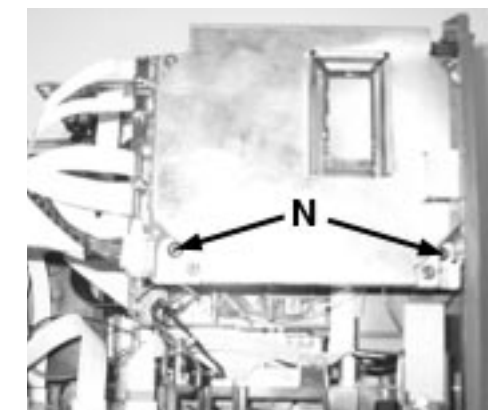

Figure 14A
- 3) Loosen 2 screws N (see Figure 14A) to remove the Internet Audio Module assembly.